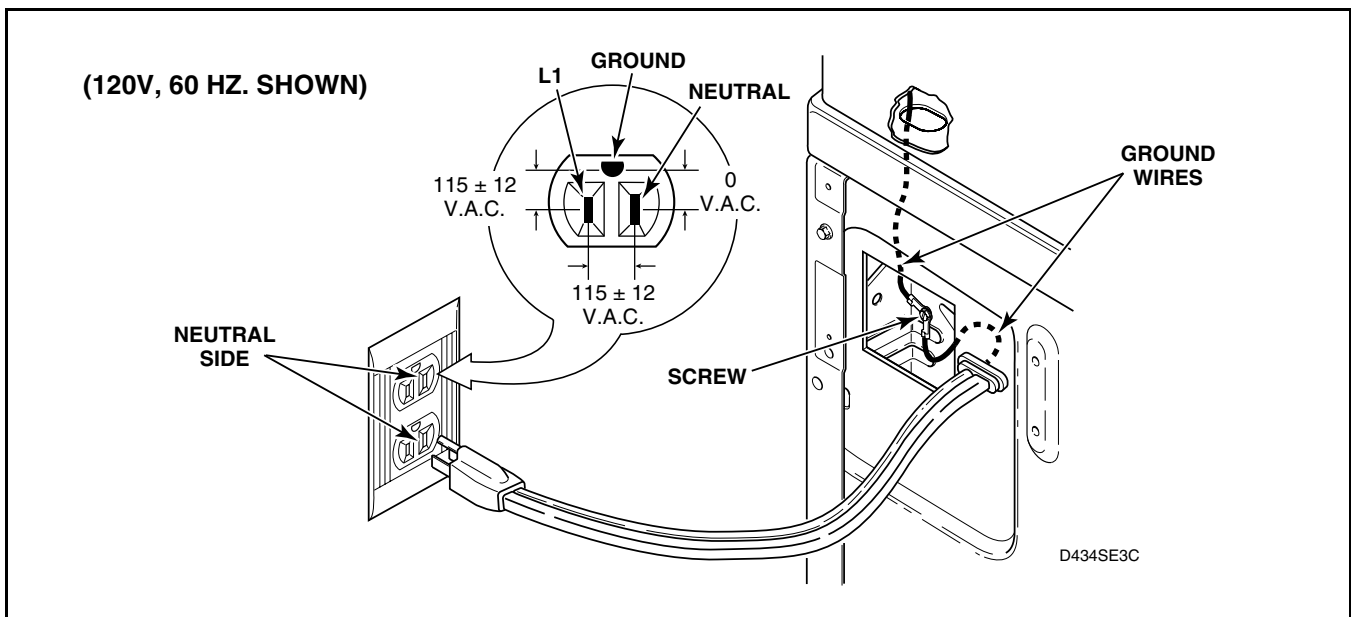

Figure 36
- (1) Remove access plate on rear of cabinet.
- (2) Remove strain relief.
- (3) Remove screw holding power cord ground wire to rear bulkhead. Refer to *Figure 36*.
- (4) Disconnect moxex plug and remove power cord from rear of dryer cabinet.